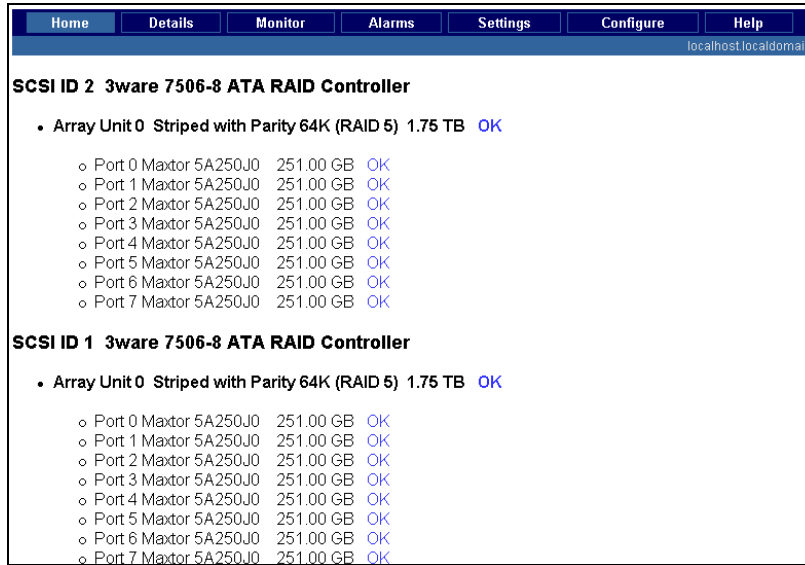

FIG. 44 Disk Management Utility - Home page
3. Press **Enter** to open the Disk Management Utility - Home Page (FIG. 44).